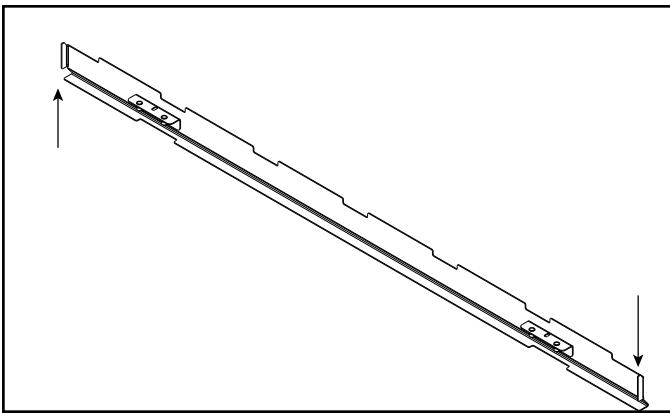

Figure 4.7 Glass Retainer Bar Assembly Locating Tabs
- Align the glass retainer bar assembly with the appliance retaining channel. Use the locating tabs on the sides of the glass retainer bar assembly to help center left and right. See Figure 4.7.